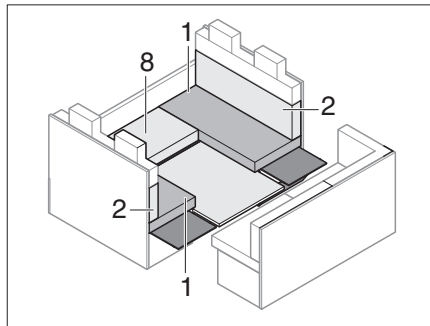

Fig. 193 During conversion
- Remove the seat cushion (Fig. 193,8) and the base.